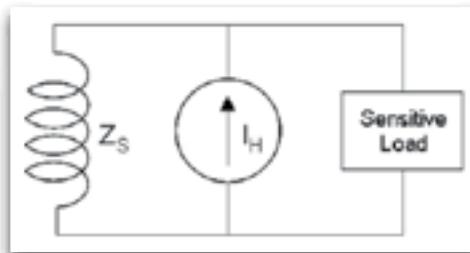

Figure 10:
Due to superposition, the network is represented at 5th harmonic differently than in the fundamental (Figure 10). The load functions as current source (IH). Normally, the network equivalent impedance ($Z_S = Z_{SOURCE} = \text{utility network plus transformer}$) is the lowest and the harmonic current flows to the utility network, which can withstand the pollution. However, in some cases the network impedance is increased (e.g. connection or disconnection of capacitors) and the harmonic current flows to the lowest impedance, which is a sensitive load. In addition, due to the increased impedance, the current source cannot